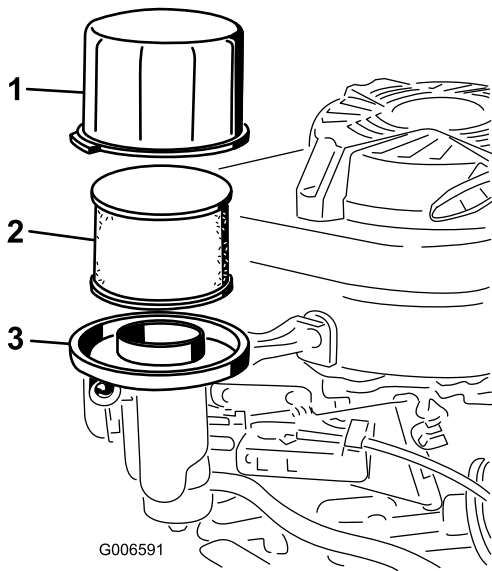

Figure 29
3. Remove the cover and clean it thoroughly (Figure 29).
4. Remove the foam pre-filter from the paper filter (Figure 29), and replace the paper filter if it is excessively dirty.